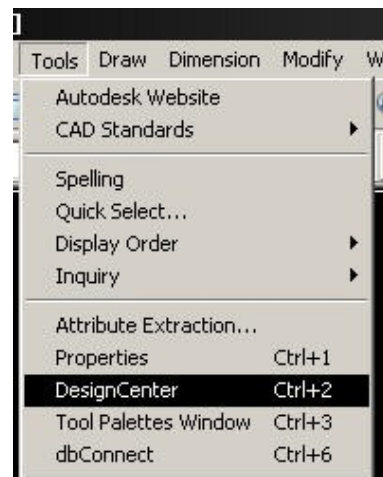

Fig. 2
- 4) Start AutoCAD and load the DesignCenter by finding the **Tools** pull down menu and selecting **DesignCenter** (Fig. 2). You can also access this by pressing **CTRL+2**.